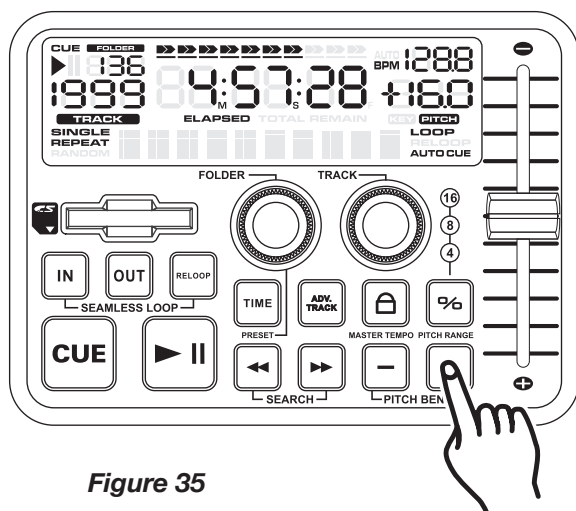

Figure 35
The (+) *PITCH BEND BUTTON* (30) will increase track playback speed and the (-) *PITCH BEND BUTTON* (30) will decrease track playback speed. The extent to which the speed changes is proportionate to the amount of time the button is pressed. For example, if the (+) *PITCH BEND BUTTON* (30) is held down continuously as in figure 35, the speed will increase and will continue to increase until it reaches a maximum of 16% speed gain. When you release the (+) *PITCH BEND BUTTON* (30) the speed will automatically return to it's previous set speed.